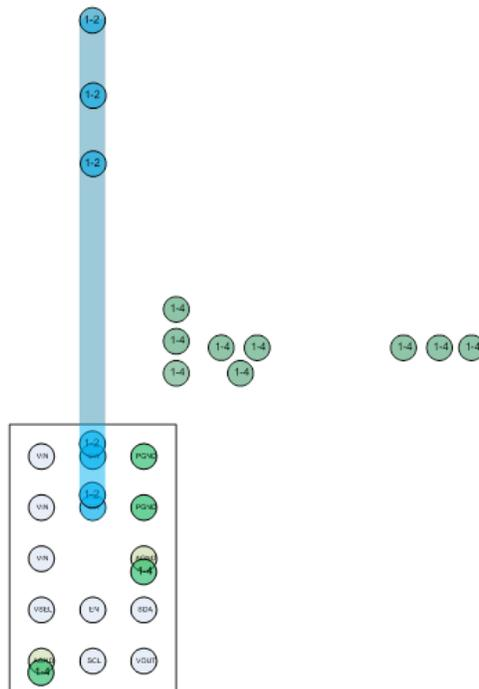

Figure 26. Layer 2
1. The input capacitor (C_{IN}) should be connected as close as possible to the VIN and GND pins. Connect to VIN and GND using only top metal. Do not route through vias (see Figure 26).
2. Place the inductor (L) as close as possible to the IC. Use short wide traces for the main current paths.